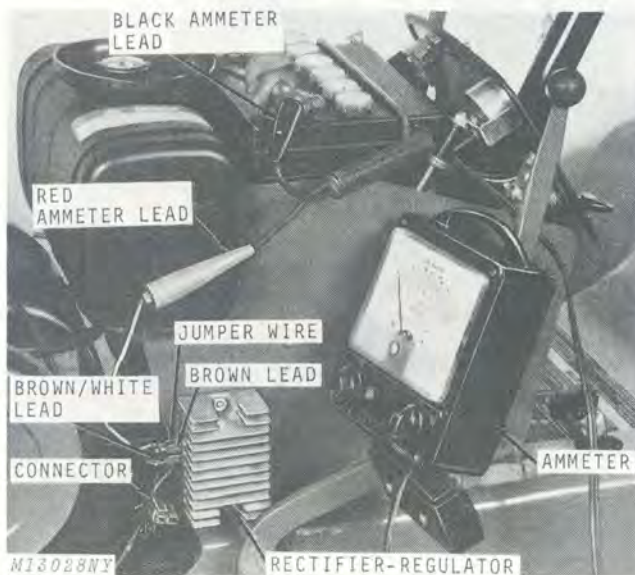

Fig. 8-Testing DC Amperes
Disconnect rectifier-regulator and remove the brown and brown/white leads from connector, Figure 8. Install loose leads on correct (AC) terminals of rectifier-regulator and a jumper wire on remaining (B+) terminal. Install red ammeter lead on jumper wire and black ammeter lead on positive battery terminal and start engine.